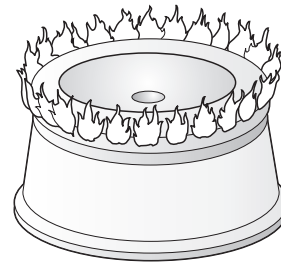

Figure 15
1. Proper Air Adjustment (figure 15)